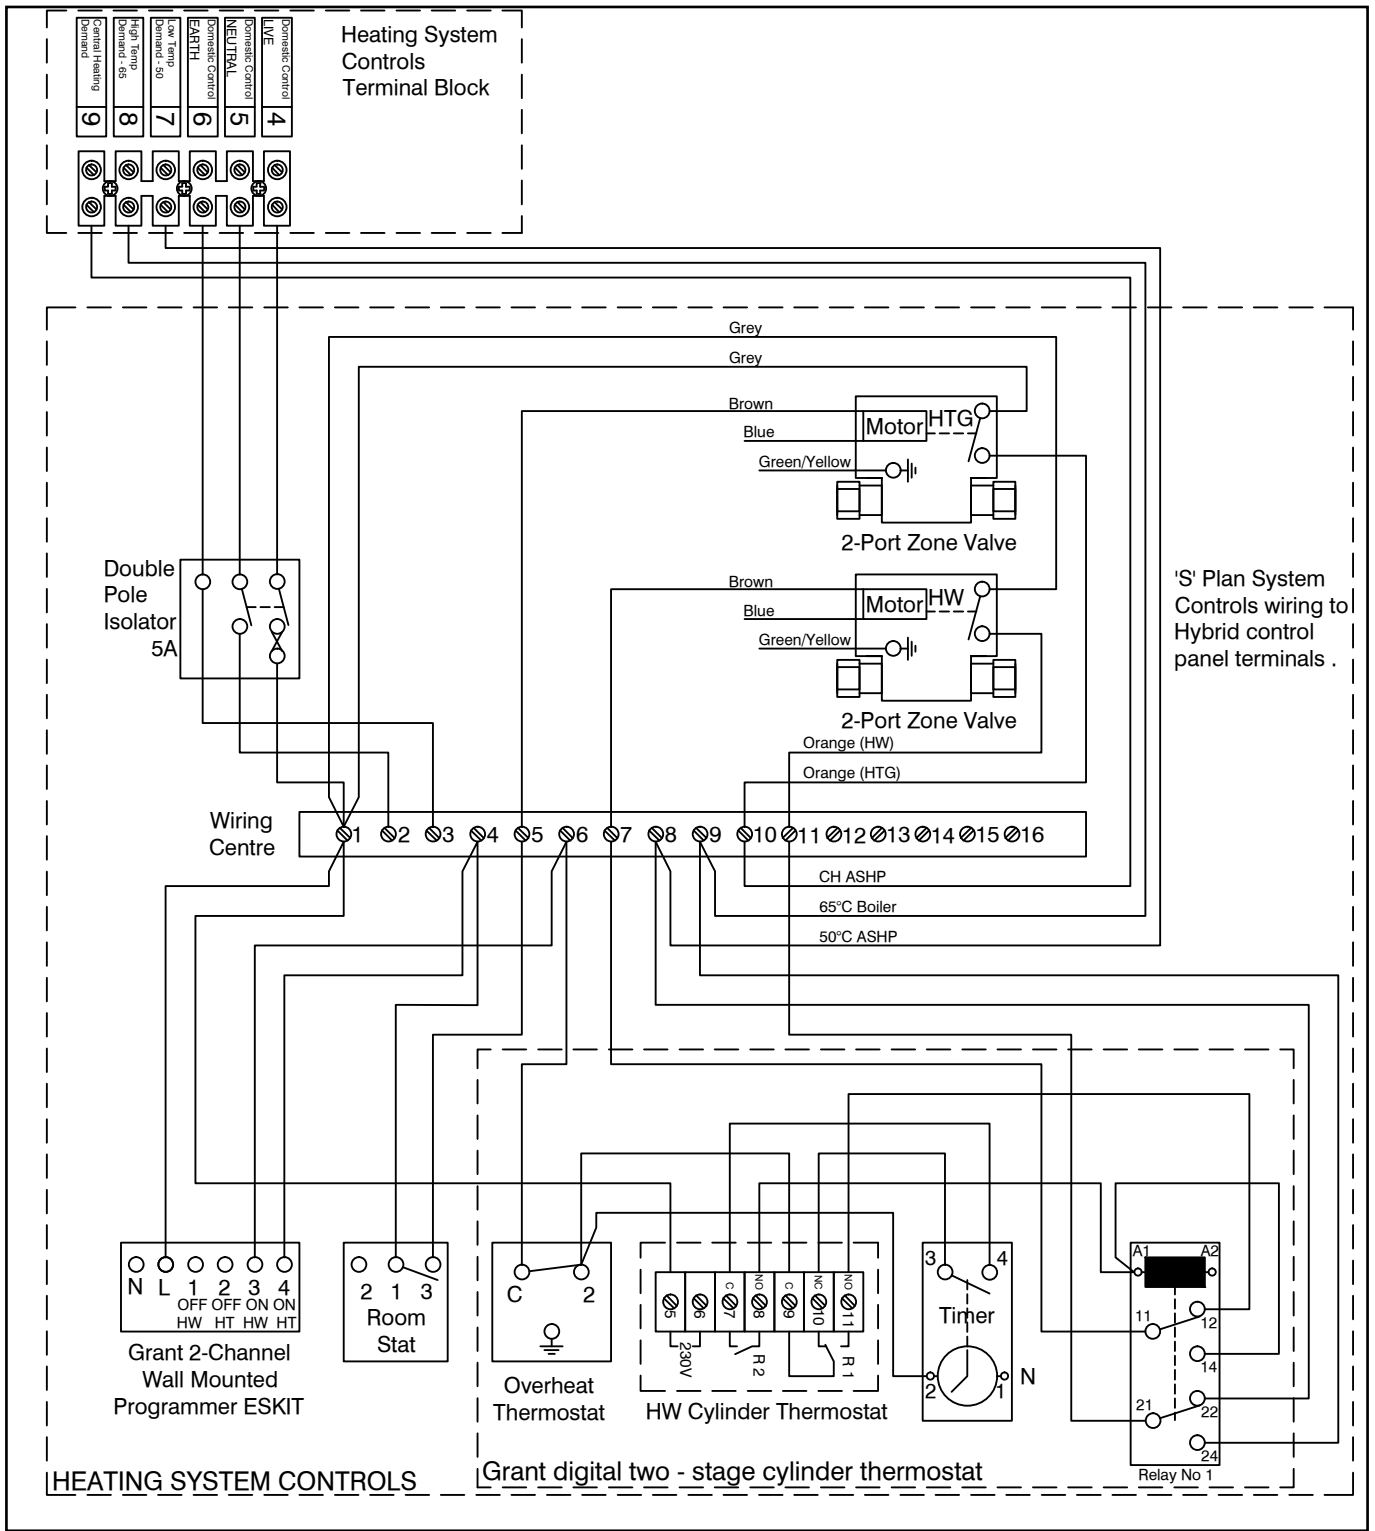

Figure 12-10: Heating controls - S-plan with Grant digital two-stage stat (HW provided by heat pump, boiler and two-stage cylinder stat)
Refer to Figures 12-10 and 12-11 for the electrical connection diagram for the digital two-stage cylinder thermostat.
2. Disconnect the DHW demand connection from terminal 7 on the Heating system controls terminal block (in the hybrid control panel) and connect it to terminal 8 instead. Refer to Figure 12-10.